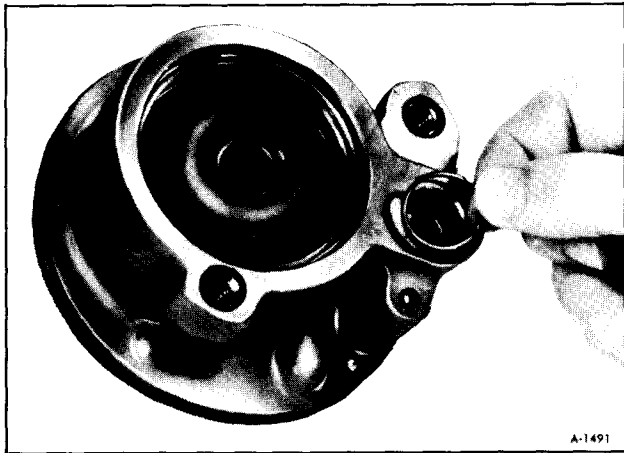

Figure 10—Removal of Stud & Union Seals
4. Remove both mounting stud and union seals from counterbored spaces between reservoir and housing. Discard these seals also. (figure 10).
15. Install new stud seals and union seals in counter sunk holes, and lubricate with Power Steering Fluid and install new reservoir "O" ring on housing (figure 10).